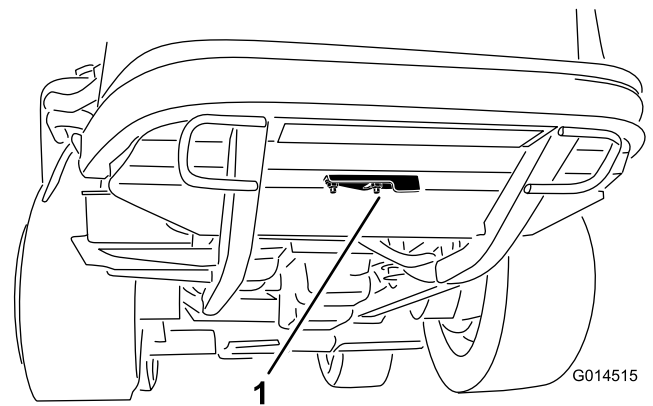

Figure 54
2. Loosen the flange nut securing the clean out cover to the underside of the rear frame (Figure 54). Rotate the cover to the side to expose the clean out hole in the frame.